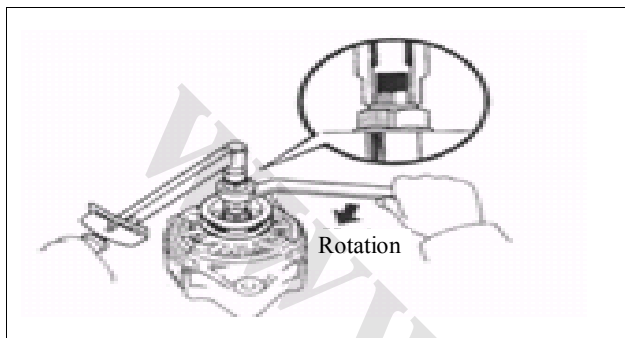

Figure 435
• Use a 29-mm box wrench and a pressing device to press in the rectifier end bracket (see Fig. 435).